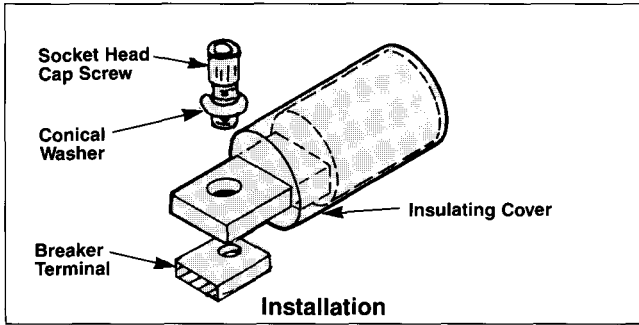

Figure 3
- J. Slip insulating cover over connector tang and then over connector barrel so that only the connector tang is exposed (Figure 3).
- K. Position connector tang on top of the circuit breaker terminal pad and secure with $\frac{1}{4}$ -28 x $\frac{1}{2}$ in. socket head cap screw and conical spring washer. Conical spring washer is to be installed with convex side of washer toward underside of screw head (Figure 3). Torque screw to 50 in-lb.